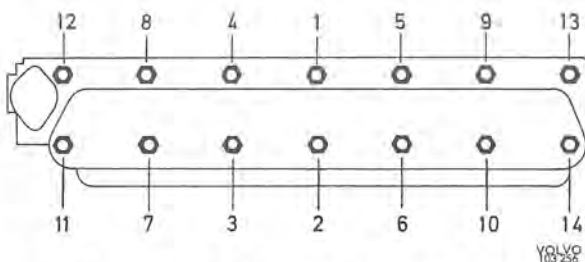
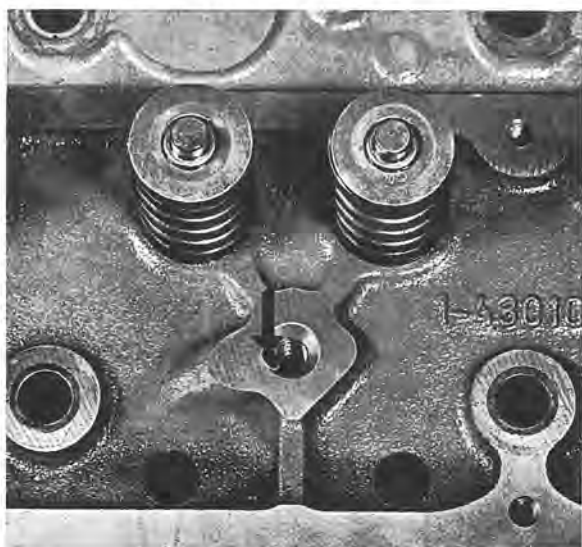

Fig. 2-22. Tightening sequence for cylinder head bolts
Fig. 2-23. Oil hole in cylinder head
The cylinder head is fitted with the help of dowels 2435. The bolts must be tightened in a certain sequence, see Fig. 2-22, to avoid unnecessary stresses.
The bolts should be tightened in two stages and final-tightened after running the engine warm. Check that the oil hole (Fig. 2-23) for lubricating the rocker arms is not blocked.
Check that the oilway (Fig. 2-23) for the rocker arm mechanism is clean on the tappet side. In the cylinder head the oil goes up through the bolt hole, between the bolt and the wall cavity and then through an oblique drilling to the attaching bolt for the rocker arm shaft and finally up the shaft. Mount the manifold onto the cylinder head. Place the cylinder head gasket and cylinder head in position with the lettering "TOP" facing upwards. (Wide edge faces upwards.) Dowel pins 2435 can be suitably used for this purpose. Oil the bolts. Tighten them a 1st and 2nd stage according to the tightening sequence given in Fig. 2-22.
3. Check that the oil hole (Fig. 2-23) in the cylinder head for the rocker arm mechanism is not blocked.
4. Place the cylinder head in position. Fit the bolts and remove the dowels. The cylinder head bolts should be tightened in three stages, 1st stage: 40 Nm (29 lbft), 2nd stage: 80 Nm (58 lbft) and the third stage, 90 Nm (65 lbft) after running the engine warm according to point 17. The bolts should be tightened in the sequence shown in Fig. 2-22.